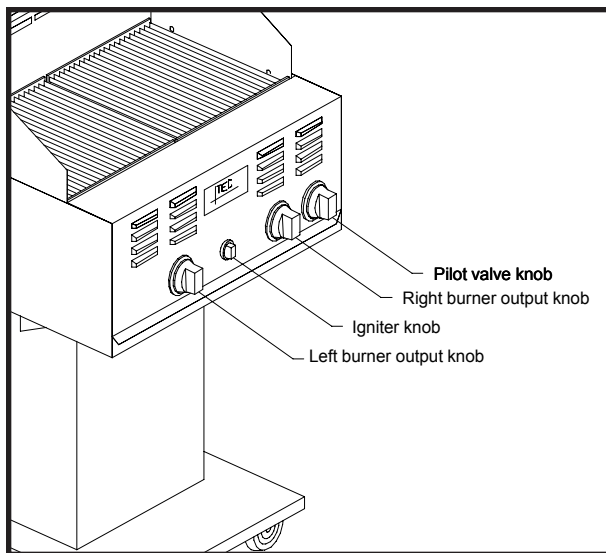

Figure 12. Burner and Pilot Output Knobs
3. Remove the Burner Output Knob from the valve stem. (See Figure 12.)